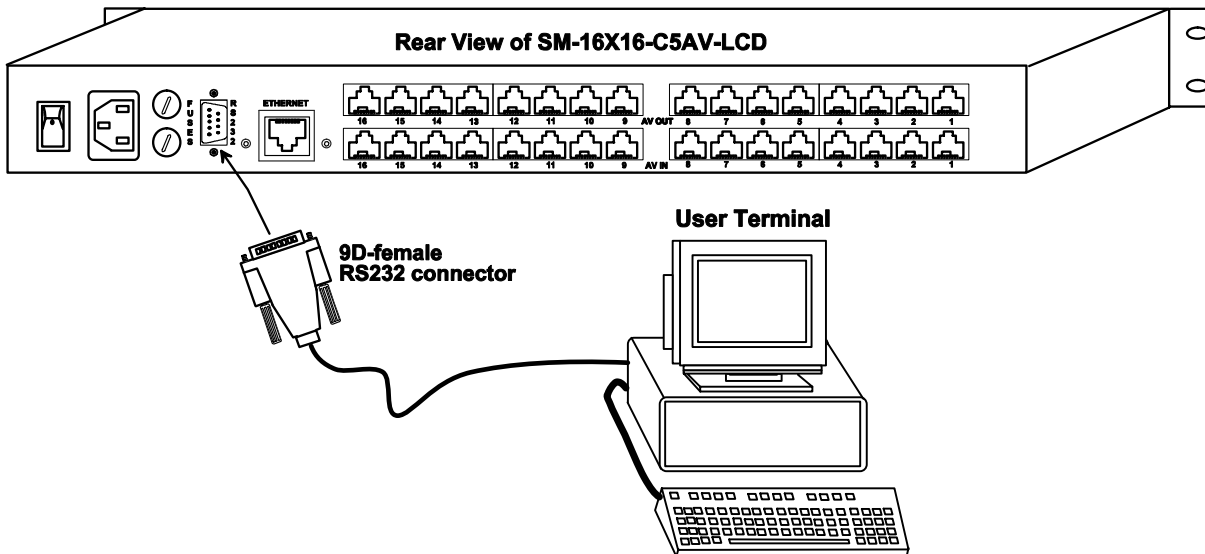

Figure 9- Connect user terminal to VEEMUX
**Note:** This total length of CAT5 cable between the ST-C5VA-600 Remote and Local units cannot exceed 600 feet. (See Fig. 9)
7. For direct connection of a user terminal, connect a null modem cable (specifications on page 25) between the user terminal and the 9 pin DIN male connector on the VEEMUX labeled RS232. (See Fig. 9) The user terminal will control the VEEMUX via the RS232 interface (page 13).